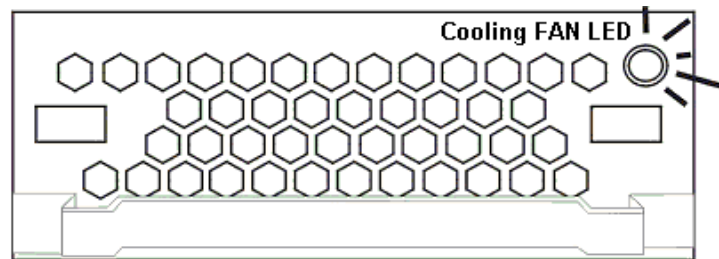

Figure 3-6: Cooling Module LED
Each cooling module has one (1) red LED on the back. Each LED corresponds to a single fan within the cooling module. (See *Figure 3-6* for the LED's location)